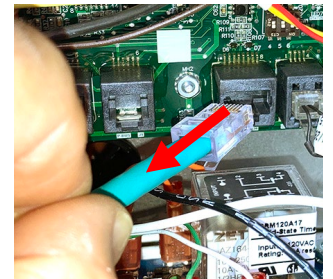

Figure 5
5. Disconnect the RJ45 cable from the SIB board **FIRST** (see Figure 5).